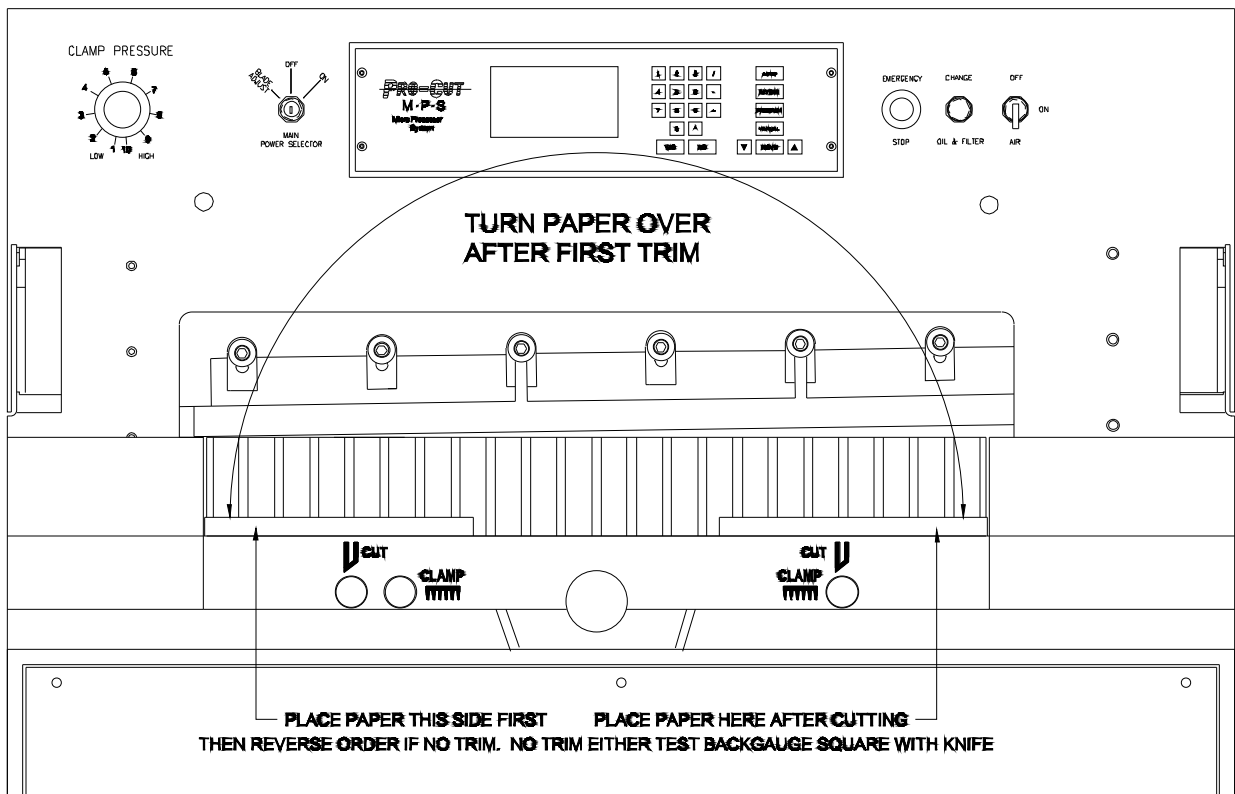

Fig 39
1. Place the stack on the left side of the backgauge and not touching the left side plate. Cut the stack. Fig. 39.
3. Turn the stack over from left to right and place it on the right side of the backgauge and not touching the right side plate. Cut the stack. Fig. 39.
7. Recheck "SQUARING THE BACKGAUGE OVERHEAD BACKGAUGE" procedure page 42 Fig. 39.